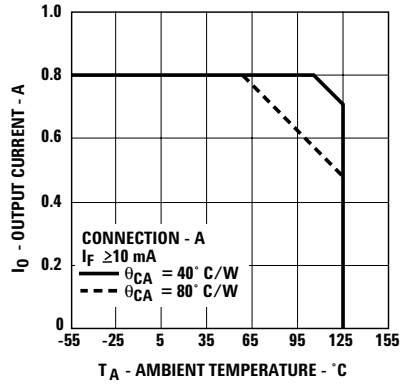
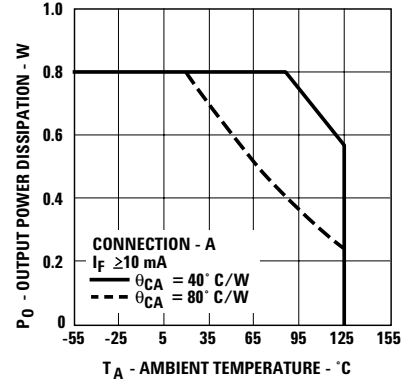

Figure 2. Maximum Average Output Current Rating vs. Ambient Temperature.
Figure 4. Output Power Rating vs. Ambient Temperature.
| Average Output Current - Figure 2                                         | I O         |      |               |       |      |
| Average Output Power Dissipation - Figure 4                               |                        |      | 800           | mW    | 2    |
- For rating, see Figure 4. The output power  $P_O$  rating curve is obtained when the part is handling the maximum average output current  $I_O$  as shown in Figure 2.
IN ORDER TO DETERMINE  $V_{OUT}$  CORRECTLY, THE CASE TO AMBIENT THERMAL IMPEDANCE MUST BE MEASURED FOR THE BURN-IN BOARDS TO BE USED. THEN, KNOWING  $\theta_{CA}$ , DETERMINE THE CORRECT OUTPUT CURRENT PER FIGURES 2 AND 4 TO INSURE THAT THE DEVICE MEETS THE DERATING REQUIREMENTS AS SHOWN.
output pins for a duration sufficient to reach thermal equilibrium.  $R_{SS}$  includes the effects of the temperature rise of each element in the thermal model. Rating curves are shown in Figures 2 and 4. Figure 2 specifies the maximum average output current allowable for a given ambient temperature. Figure 4 specifies the output power dissipation allowable for a given ambient temperature. Above  $55^{\circ}\text{C}$  (for  $\theta_{CA} = 80^{\circ}\text{C}/\text{W}$ ) and  $107^{\circ}\text{C}$  (for  $\theta_{CA} = 40^{\circ}\text{C}/\text{W}$ ), the maximum allowable output current and power dissipation are related by the expression  $R_{SS} = P_O(\text{max}) / (I_O(\text{max}))^2$  from which  $R_{SS}$  can be calculated. Staying within the safe area assures that the steady-state junction temperatures remain less than  $150^{\circ}\text{C}$ . As an example, for  $T_A = 95^{\circ}\text{C}$  and  $\theta_{CA} = 80^{\circ}\text{C}/\text{W}$ , Figure 2 shows
that the output current should be limited to less than 610 mA. A check with Figure 4 shows that the output power dissipation at  $T_A = 95^\circ\text{C}$  and  $I_O = 610\text{ mA}$ , will be limited to less than 0.35 W. This yields an  $R_{SS}$  of  $0.94\ \Omega$ .